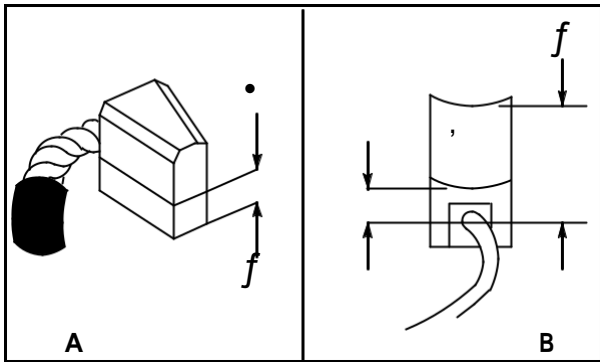

Fig. 17
Check the brushes for proper seating, weak brush springs, dirt, oil or corrosion. Brush springs should be strong enough to ensure good brush contact with armature. Replace the brushes if worn to 1/4" (6 mm) (1) or less Fig. 17 (A), or 1/8" (3 mm) (2) or less, Fig. 17 (B). Lengths of new brushes (3) are shown for reference.